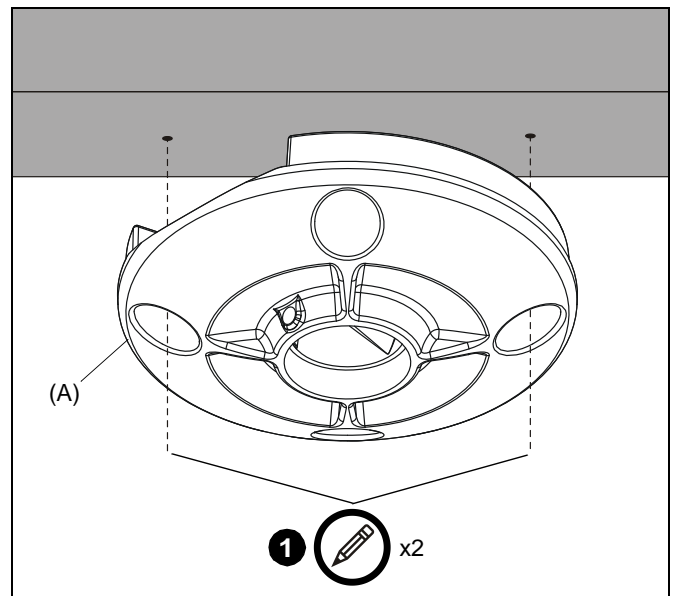

Figure 1
- Using plate (A) as a template, mark locations of two pilot holes (See Figure 1). Ensure the following:
- *Opposite* holes in plate (A) are marked, and